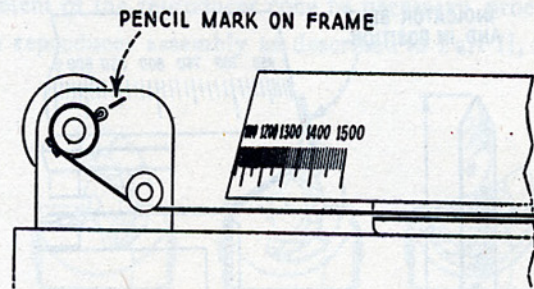

Figure 7—View showing method of checking position of dial.
2. Turn the dial scale to 600 K.C. and mark the position of the pin that holds the drive cord to the drum so that this position may be checked after the chassis is removed from the cabinet. See Figure 7.